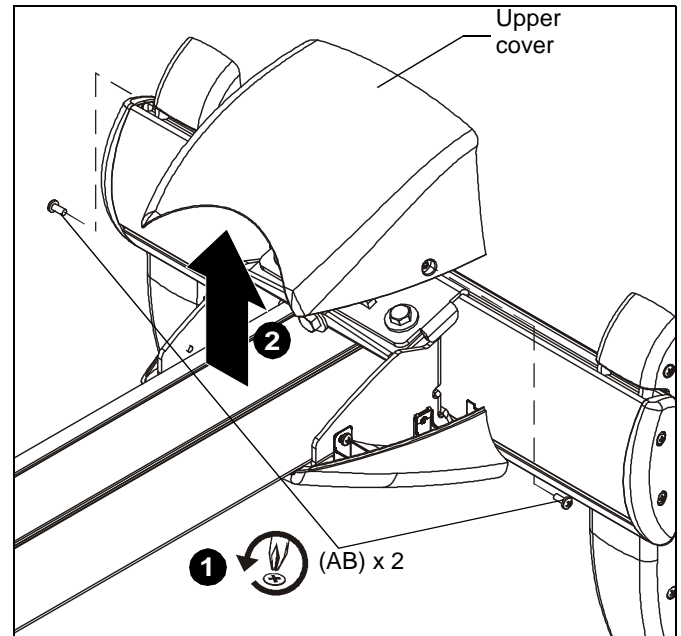

Figure 42
1. Remove two 8-32 x 3/8" Phillips pan head screws (AB) from upper cover. (See Figure 42)
2. Raise and remove the upper cover from the mount. (See Figure 42)